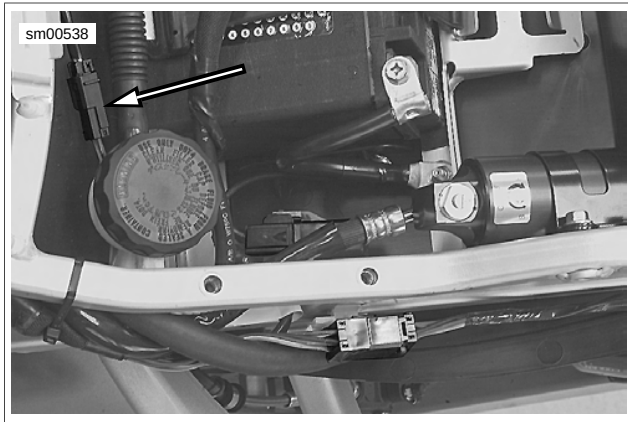
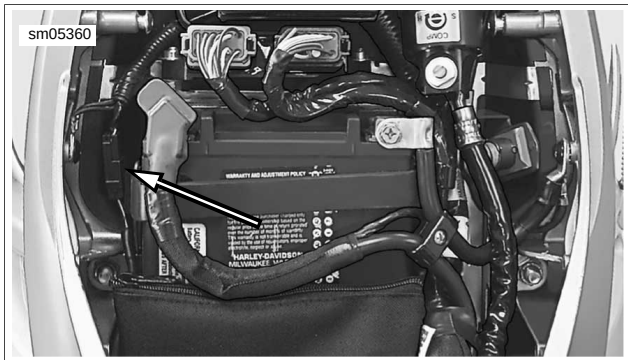
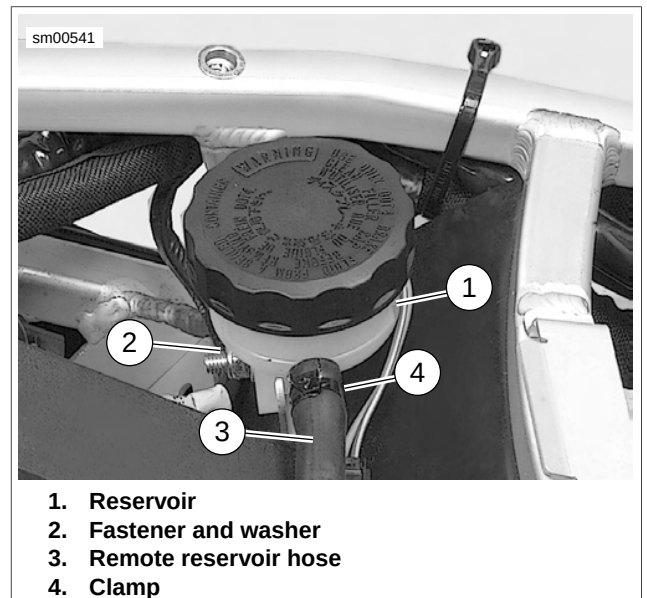
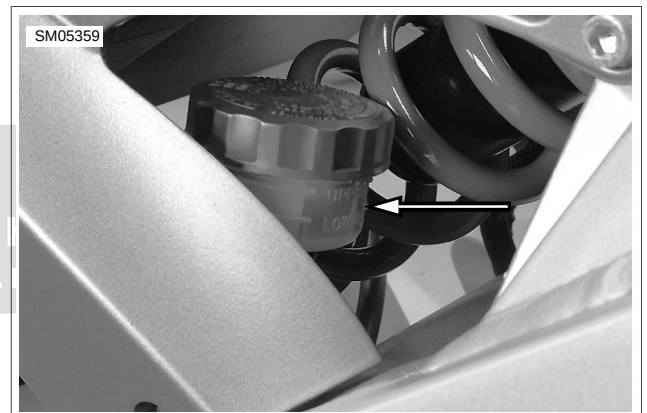

Figure 2-48. Brake Line Switch Connector: Firebolt
Figure 2-49. Brake Line Switch Connector: Lightning
Figure 2-50. Remote Reservoir: Firebolt
Figure 2-51. Remote Reservoir: Lightning
6. See Figure 2-48 or Figure 2-49. Disconnect brake light connector located under the seat.
10. See Figure 2-50 or Figure 2-51. Detach remote reservoir.
- a. Remove top clamp (4) on hose connected to master cylinder. Disconnect hose.
- b. Remove fastener (2) to detach reservoir (1) from frame if necessary.
4. See Figure 2-50. Connect remote reservoir.
- a. If removed, attach remote reservoir (1) to frame using clamp fastener (2). Tighten to 48-72 **in-lbs** (5.4-8.1 Nm).
- b. Attach hose (3) to rear brake reservoir using clamp.
5. See Figure 2-48. Connect brake line switch connector under seat.